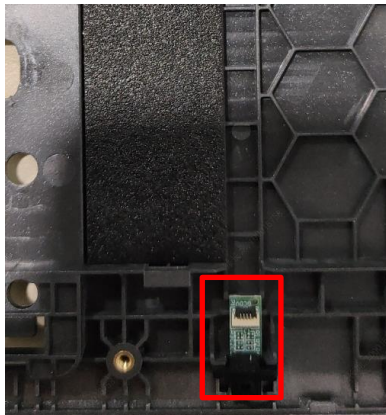

Figure 3-30. 3RD MIC Removal
2. Remove the 3RD MIC rubber and 3RD MIC from C cover (Figure 3-30).